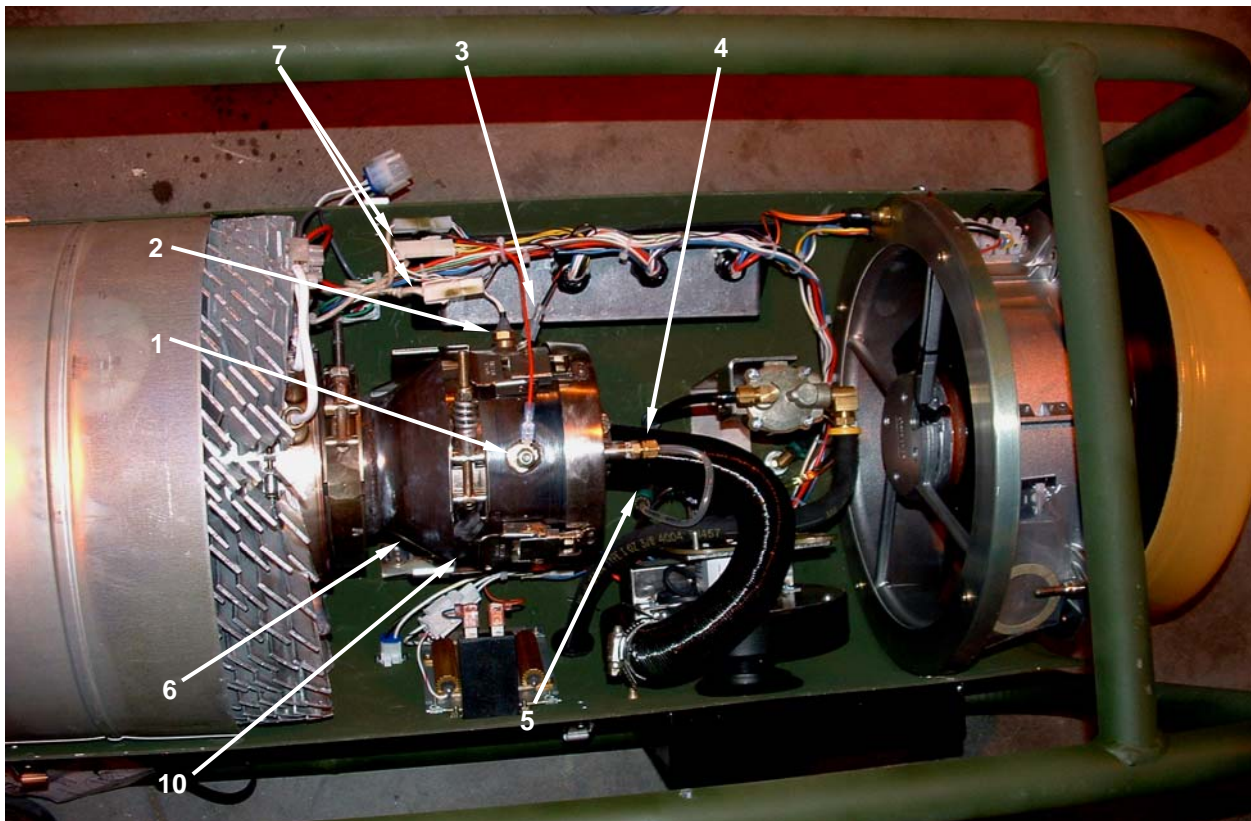

Figure 1. Remove Thermoelectric Generator (TEG).
3. Tag and disconnect the glow plug wire (**Figure 1, Item 1**), flame sensor connector (**Figure 1, Item 2**), ground wire (**Figure 1, Item 3**), fuel line (**Figure 1, Item 4**), and combustion air blower duct (**Figure 1, Item 5**) from the burner assembly (**Figure 1, Item 6**).
4. Tag and disconnect the two TEG electrical connectors (**Figure 1, Items 7**).
6. Loosen the clamp (**Figure 1, Item 10**) retaining the burner assembly (**Figure 1, Item 6**) and lift assembled burner, heat exchanger (**Figure 2, Item 11**) and TEG (**Figure 2, Item 12**) and remove from heater. Place on an appropriate work surface. Take care not to bend any of the fins on the TEG.